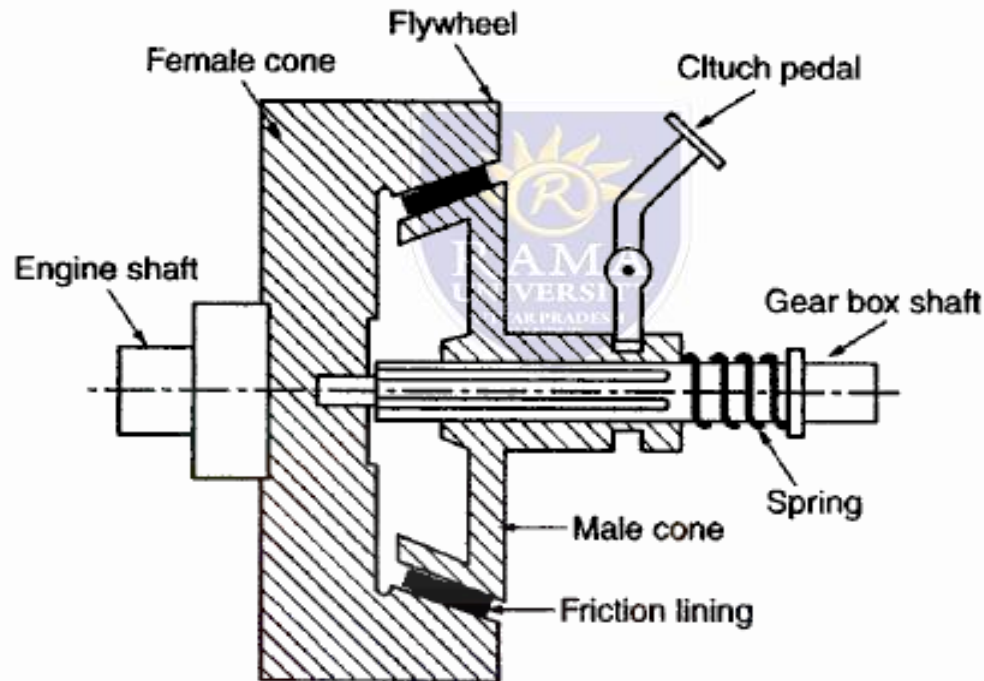

Figure 3.7 Cone clutch
- One cone is fixed with the driving shaft i.e., flywheel whereas the male member is splined on the driven, shaft i.e., gear box shaft. Figure 3.7 shows the construction details. between plates is increased as the speed of rotation of the clutch increases in proportion to the pressure requirements.